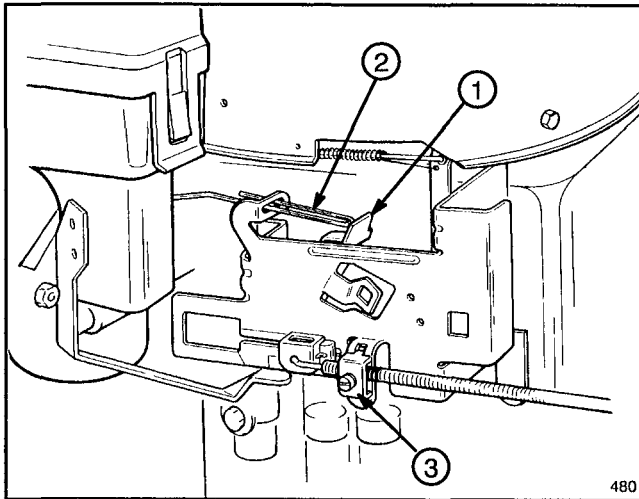

Figure 19
2. The throttle lever should be just touching the choke link (Fig. 19); if they are not in this position, an adjustment is necessary:
- B. Loosen the throttle cable clamp screw (Fig. 19) and move the control cable casing and wire until the throttle lever touches choke link.